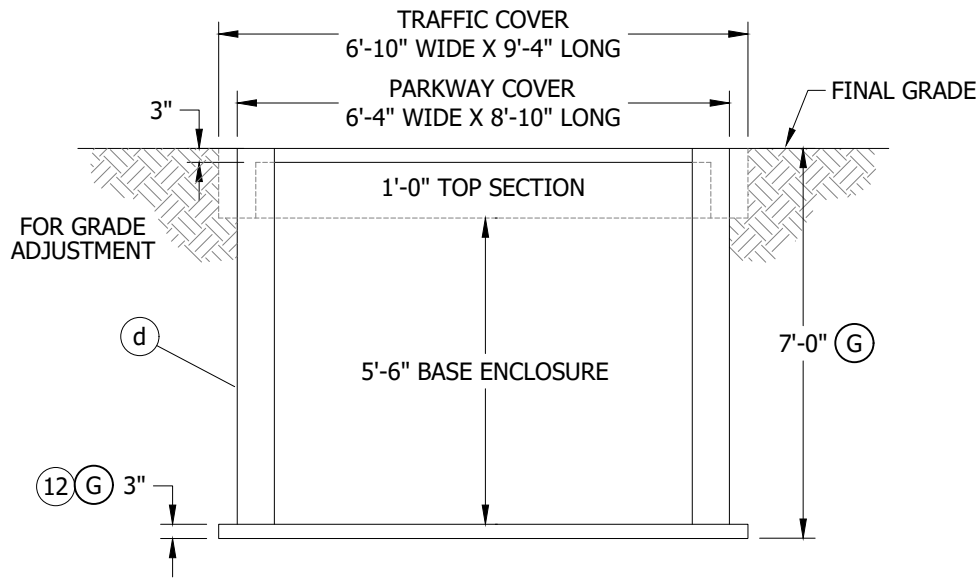

FIGURE 5
- B. AFTER THE LOCATION IS ESTABLISHED MARK OUT DIMENSIONS FOR THE EXCAVATION WIDTH, LENGTH AND DEPTH PER FIGURE 5. THE WIDTH AND LENGTH DIMENSIONS GIVEN, ALLOW AN EXTRA 8 INCHES FOR SETTING THE SUBSTRUCTURE.